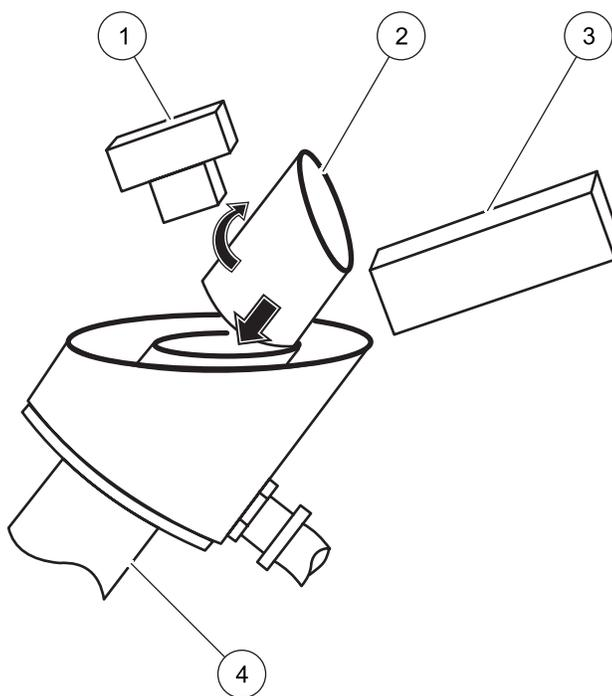

Figure 16 Installing the calibration cylinder
2. Turn off sample flow to the instrument and drain the turbidimeter body. Insert the calibration cylinder into the top of the body (Figure 16 on page 33).